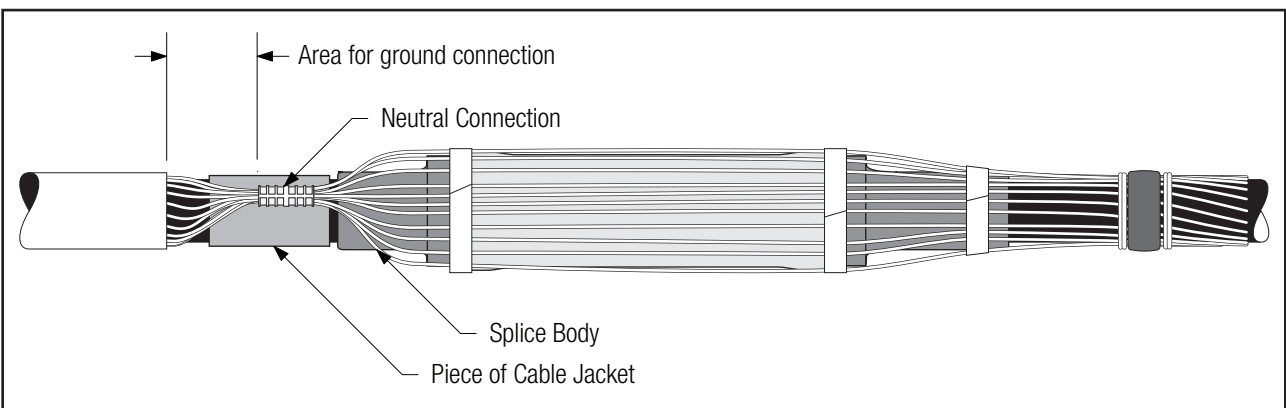

Figure 41
10.2.2 Use a piece of cable jacket, removed during cable preparation, to cover and protect exposed cable semi-con under the area where the neutral and/or ground connection will be made. Secure with tape. Ensure that the cable jacket piece does not touch the splice body (Figure 41).
10.2.3 Connect neutrals using a suitable compression connector ("INLINE", "C", or "H" type) between jacket end and reduced splice diameter. Keep connector profile as low as possible. Crimp connector following the connector manufacturer's recommendation (Figure 41).